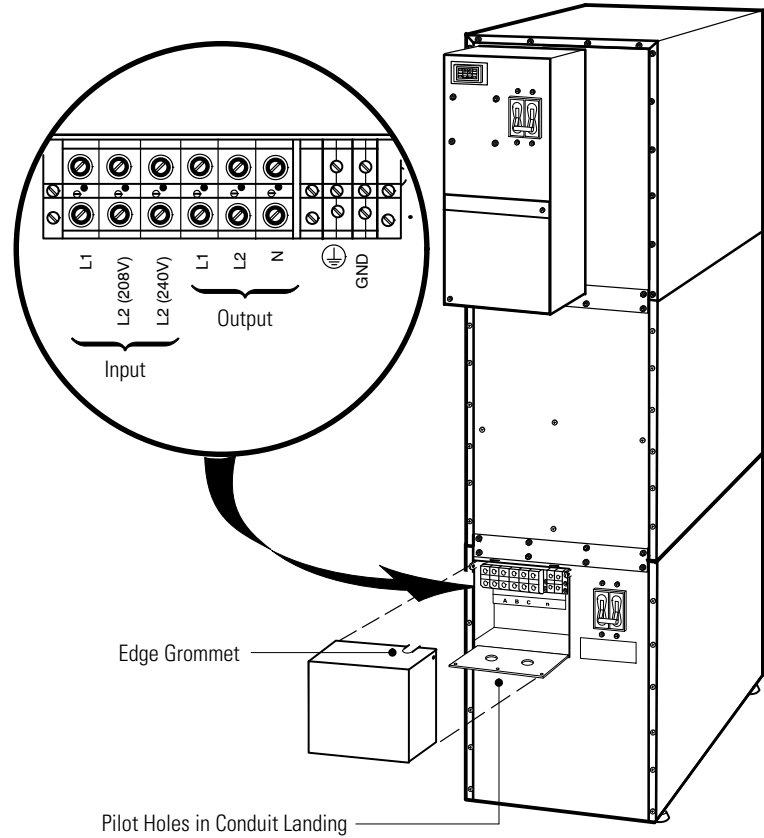

Figure 10. Input Isolation Transformer Hardwiring
10. On the input isolation transformer, punch the two pilot holes in the conduit landing for the input and output conduit using a Greenlee® punch or similar device (see Figure 10).
See Table 2 for specifications and Figure 10 for a detailed view of the input isolation transformer terminal block.
15. On the input isolation transformer, punch one pilot hole in the conduit landing for the input conduit using a Greenlee punch or similar device (see Figure 10 on page 19).